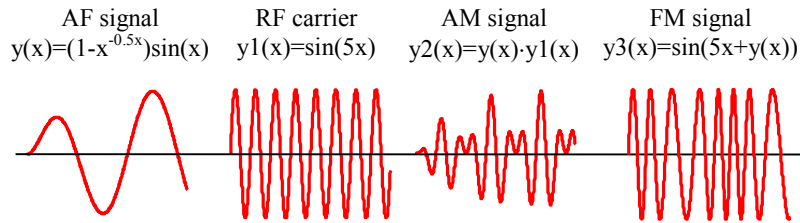

Figure 1
Radio frequency (RF) waves are used to carry audio frequency (AF) waves over long distances through the air. The audio signals can be combined with the RF carrier wave in such a way that it varies the amplitude of the carrier. This gives an amplitude-modulated (AM) carrier wave (see Fig. 1). In a frequency-modulated (FM) wave, the audio signal is combined with the RF carrier wave to vary the frequency of the carrier (see Fig. 1).